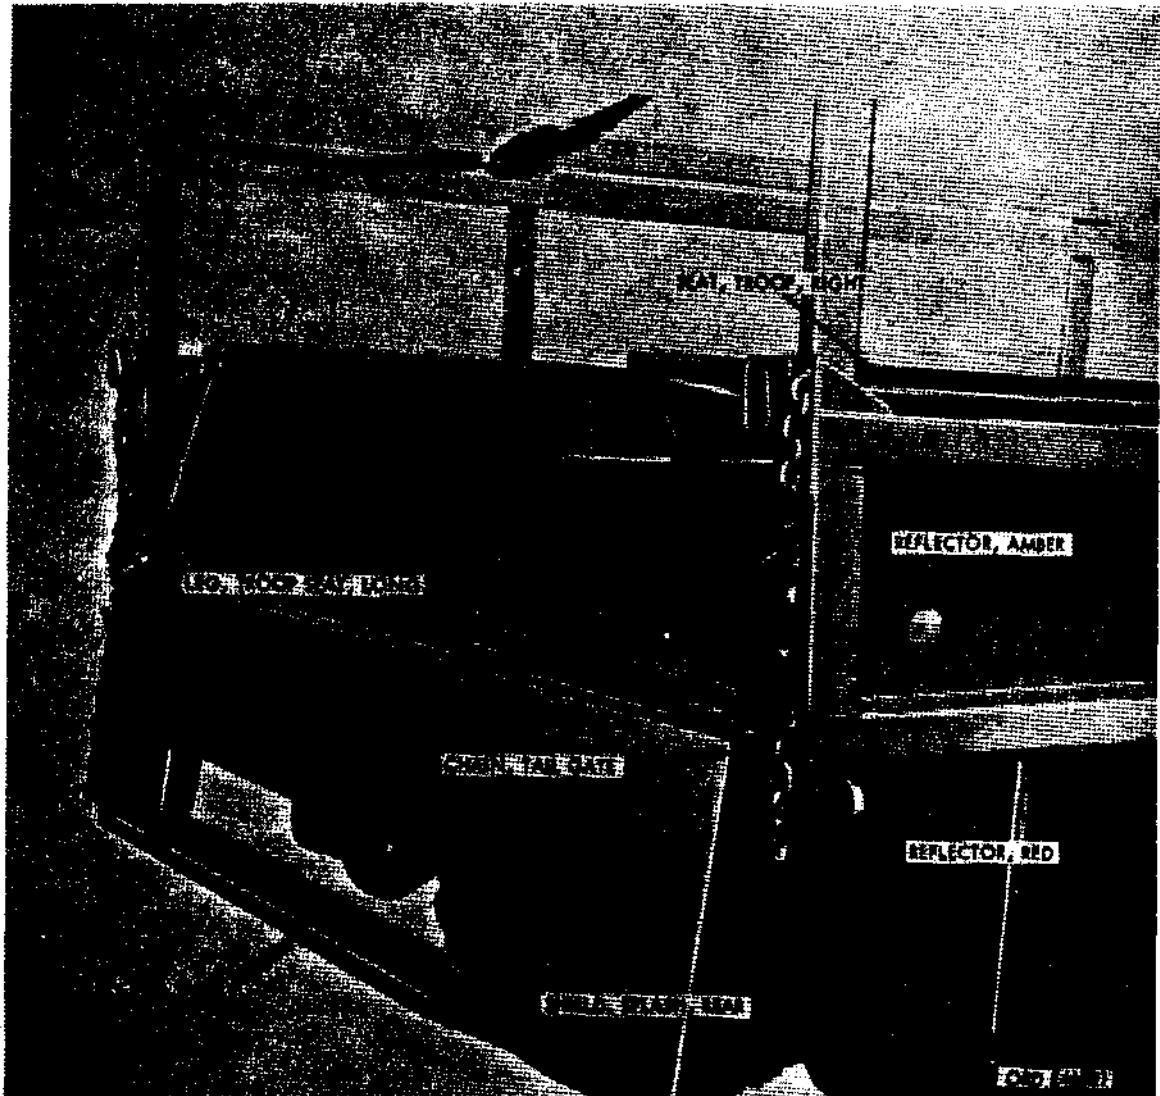

Figure 61. Cargo body tailgate lowered
h. Troop Seat Assemblies (Fig. 61). Troop seats are removed with side racks or can be removed separately. To remove troop seats only, remove cotter pins and hinge pins from six hinges attaching each seat to rack tubes. Release seat latches, disengage hinges, and remove troop seats.